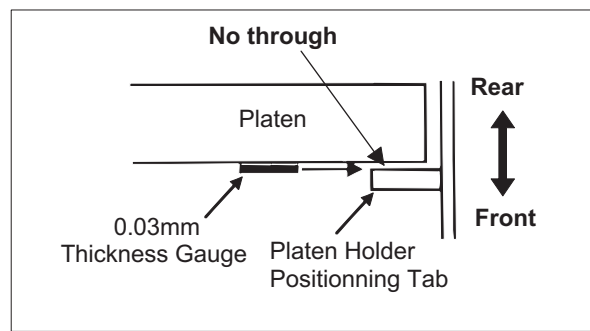

Figure 3-63. Platen Positioning
- When you mount the platen to the platen holders, space between the platen and positioning tab on the both sides must be less than 0.03mm. (Refer to Figure 3-63.)